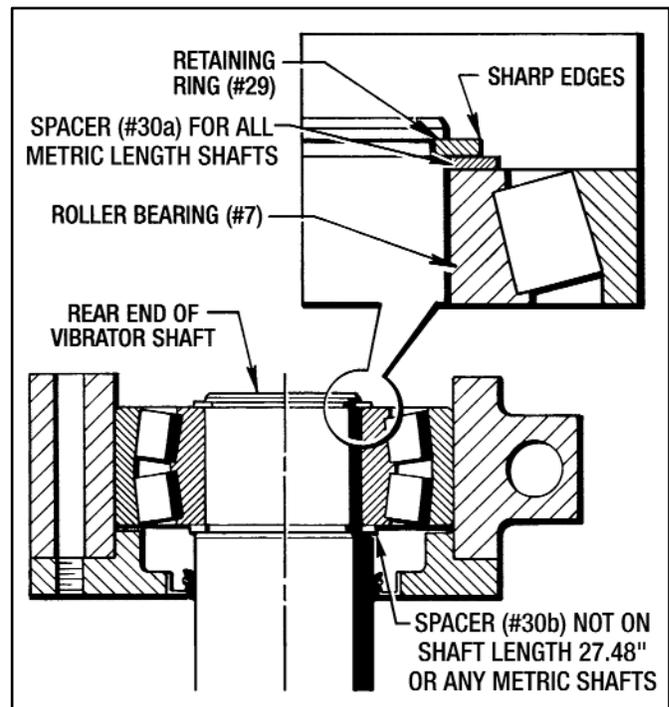

Figure 7.16 - Installing Retaining Ring (#29)
- Install the Retaining Ring (#29) onto the shaft end with the sharp edges away from the bearing as shown in Figure 7.16. Be sure that this Retaining Ring (#29) snaps into the groove.
- Attach the End Bearing Closure (#6) with (4) Hex Hd. Screws (#3) and (4) Lockwashers (#4). **Torque to 14 Ft. Lbs.**